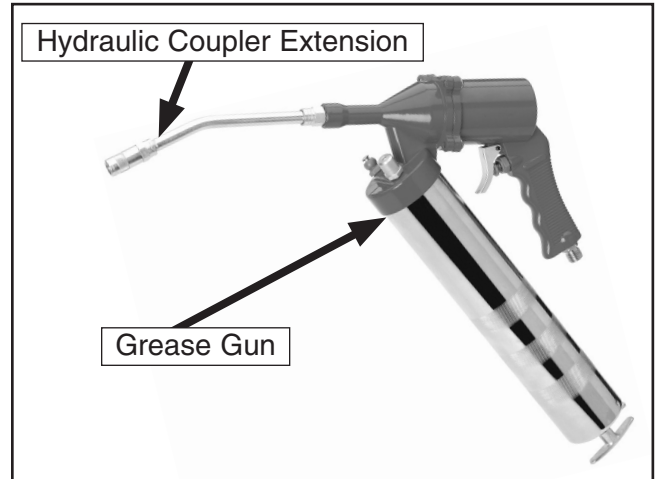

Figure 1. Model H8223.
Inventory (Figure 1)
3. Remove the head assembly (**Figure 1**), from the container body.